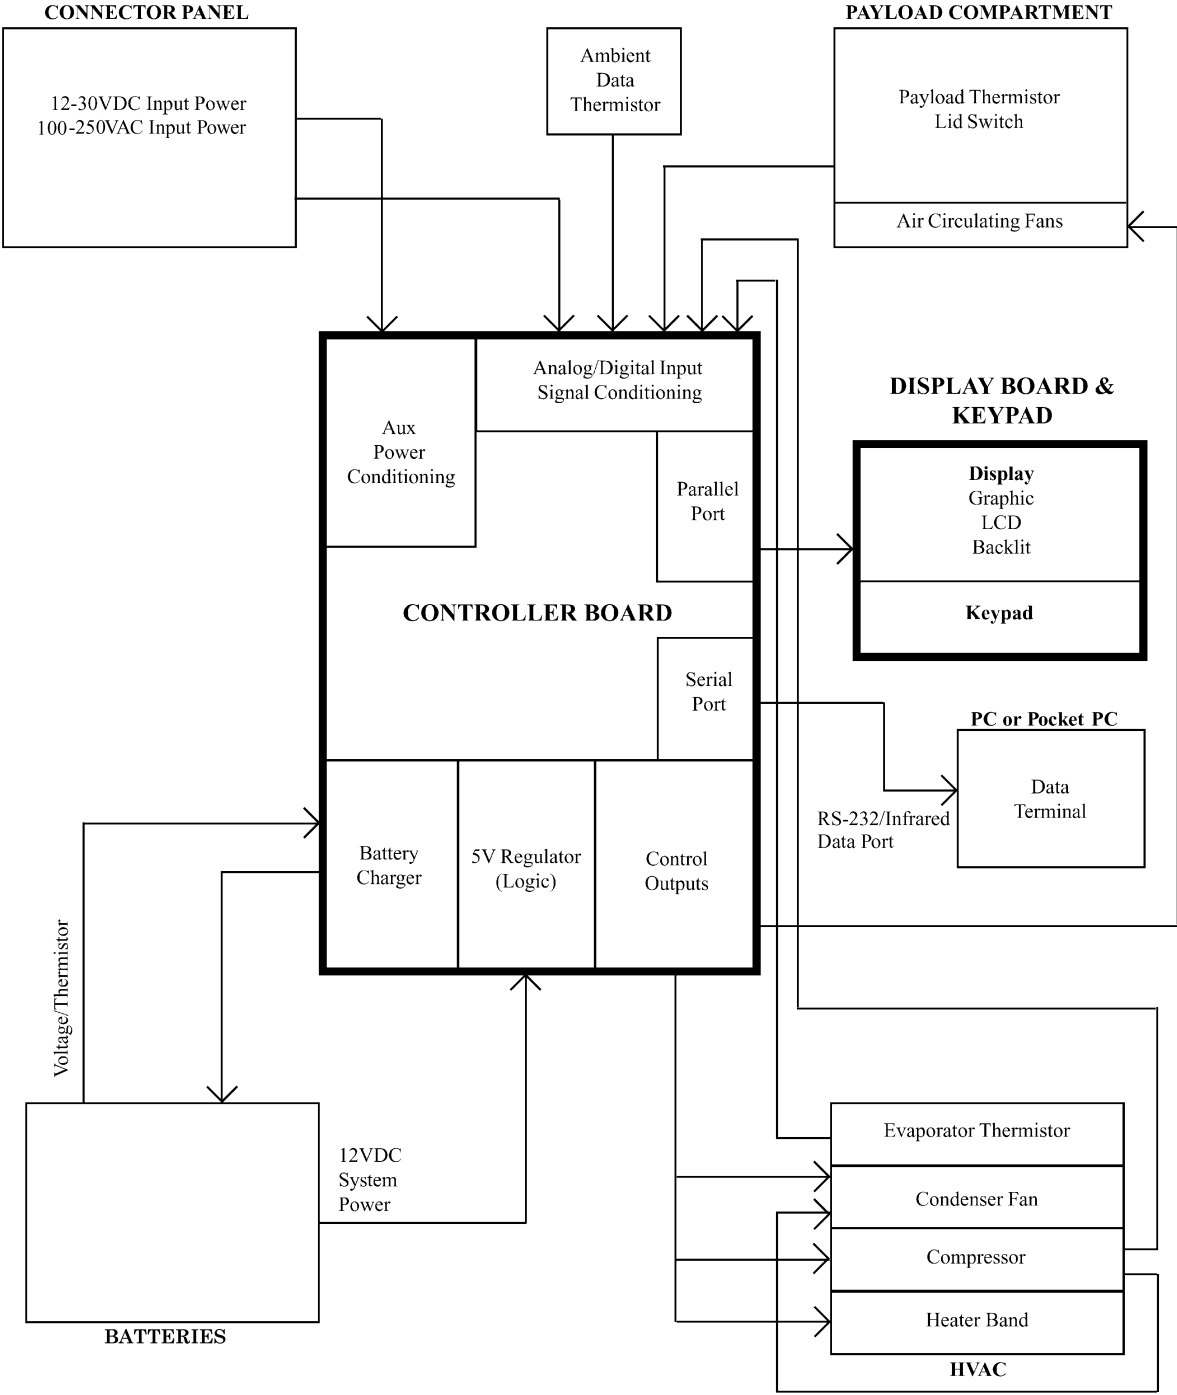

Figure 1-4. Functional Block Diagram
- a. Figure 1-4 is a functional block diagram of the HemaCool® as described below.